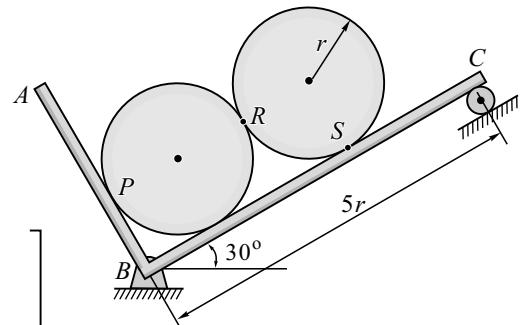

Fig. 3.E14
15. A light bar is suspended from a cable BE and supports a 200 N block at C . The extremities A and D of the bar are in contact with frictionless vertical walls, as shown in Fig. 3.E15. Determine the tension in cable BE and the reactions at A and D .